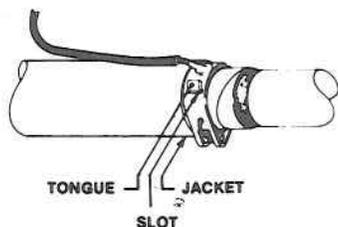

FIGURE 3
3. Wrap ground strap around cable shielding and butt up against edge of cable jacket. Insert the tongue into the slot and snug up like a belt. Bend the tongue back and cut off excess, as shown in Figure 3.